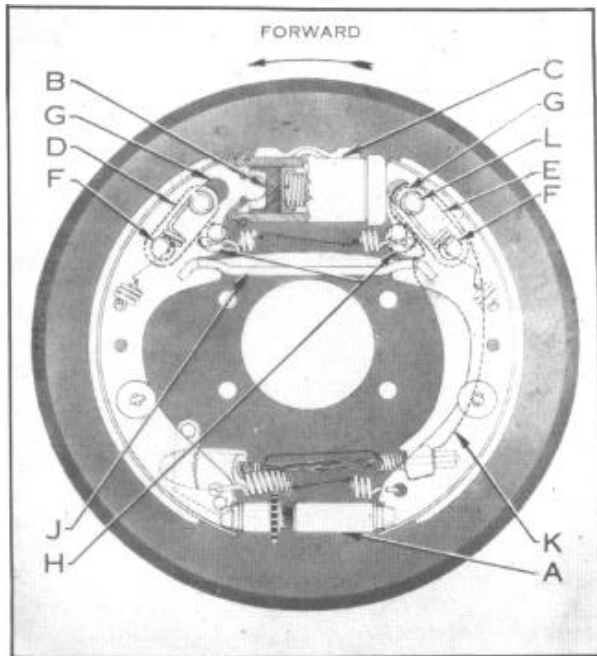

Figure 2--Floating Type Shoes
The lever strut (J), Figure 2, is placed between the rear shoes just under the cylinder and acts parallel with the cylinders. This bar is operated by a lever (K) which is pivoted on the secondary shoe anchor link at (L).
The brake shoes are direct acting in that the upper ends of both primary and secondary shoes rest against the wheel cylinder pistons without links between them as shown at (B) Figure 2. This places the cylinder (C) higher up on the backing plate so